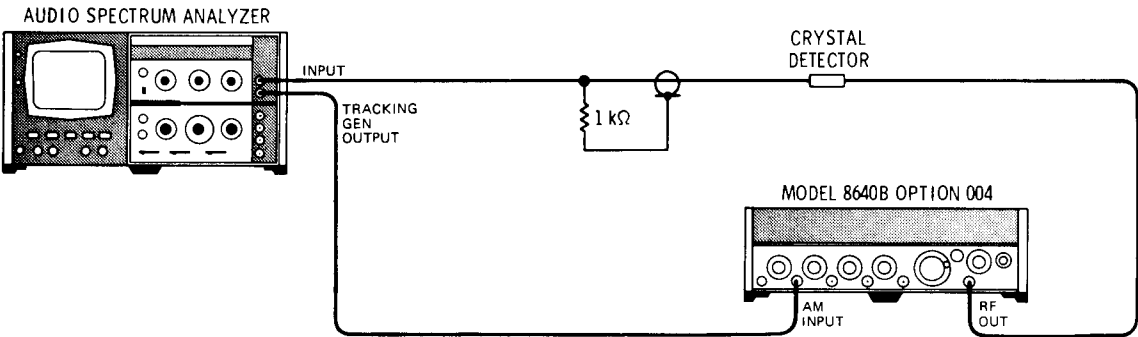

Figure 4-18. AM 3 dB Bandwidth Test Setup
1. Connect equipment as shown in Figure 4-18 after setting Signal Generator's controls as follows: